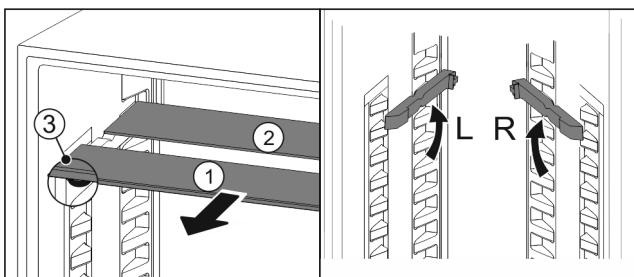

Fig. 20
- Pull the glass panels out Fig. 20 (1) from the front, one at a time.
- The glass panel Fig. 20 (1) and trim strip are at the front.
- The stops Fig. 20 (3) point down.